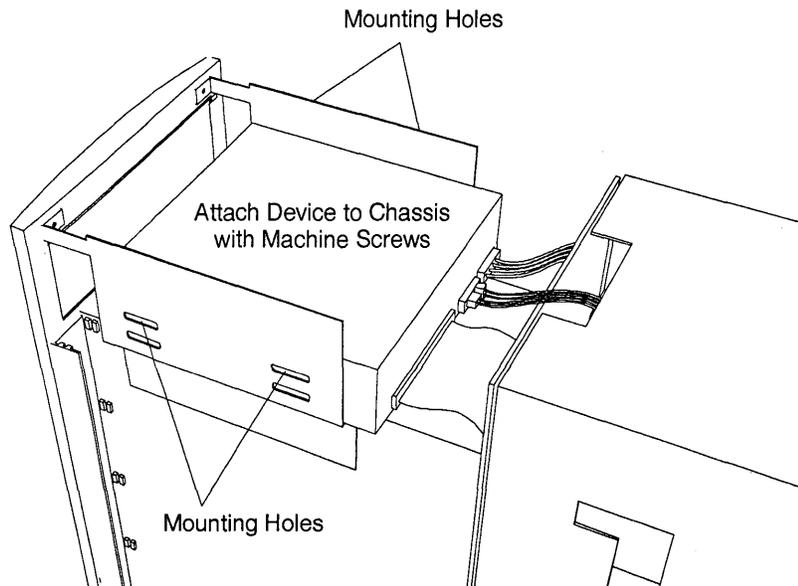

Figure 1-12: Securing peripheral to the enclosure rack
- 5 Secure the peripheral to the chassis with machine screws. See Figure 1-12.